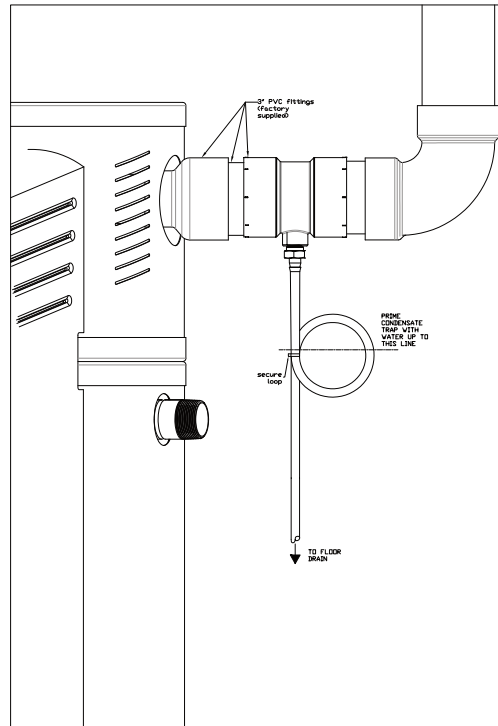

Figure 23: Condensate Drain on Air Intake Piping
- Glue the male end of the drain assembly into the intake fitting with the capped hose barb pointing straight down (pipe and drain fitting in Figure 23).